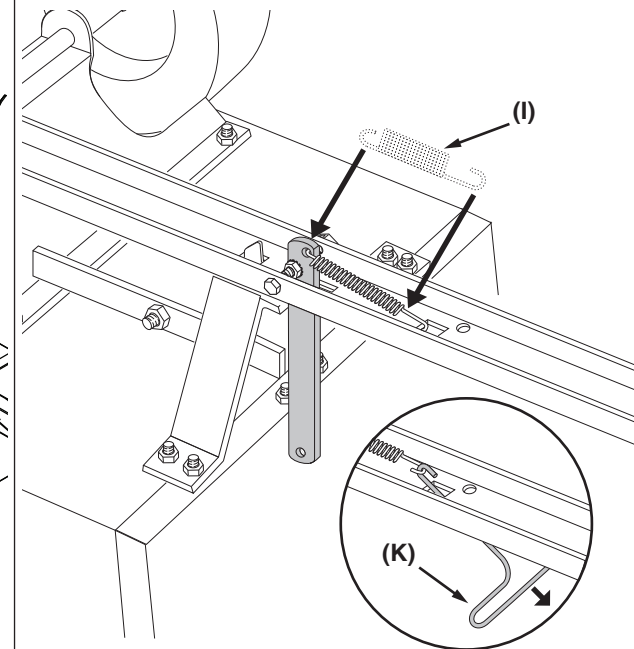

Figure 19
**STEP 19 (SEE FIGURE 19):** Attach the extension spring (I) to the latch lock lever by inserting one end into the hole in the latch lock lever. Using the spring puller tool (K), attach the other end of the extension spring (I) to the square hole in the draw bar tongue as shown in figure 19.